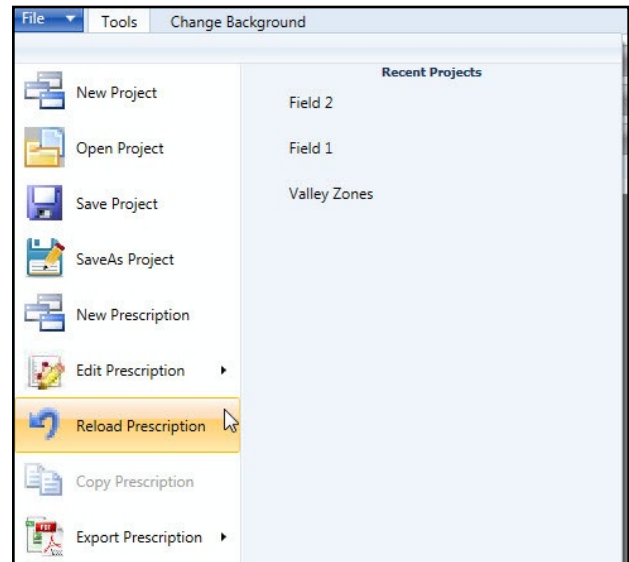

Figure 37-1 VRI Drop-down Menu Reload Prescription
1. Select **Reload Prescription** in the VRI drop-down menu. See Figure 37-1.